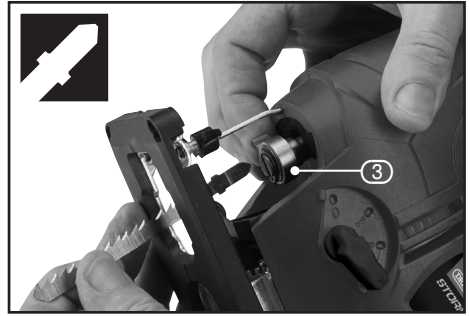

FIG.1
8.1 BLADE INSTALLATION AND REPLACEMENT – FIG. 1